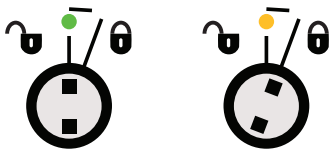

Figure 46
2. Turn the locking key to lock or unlock the function. See Figure 46.